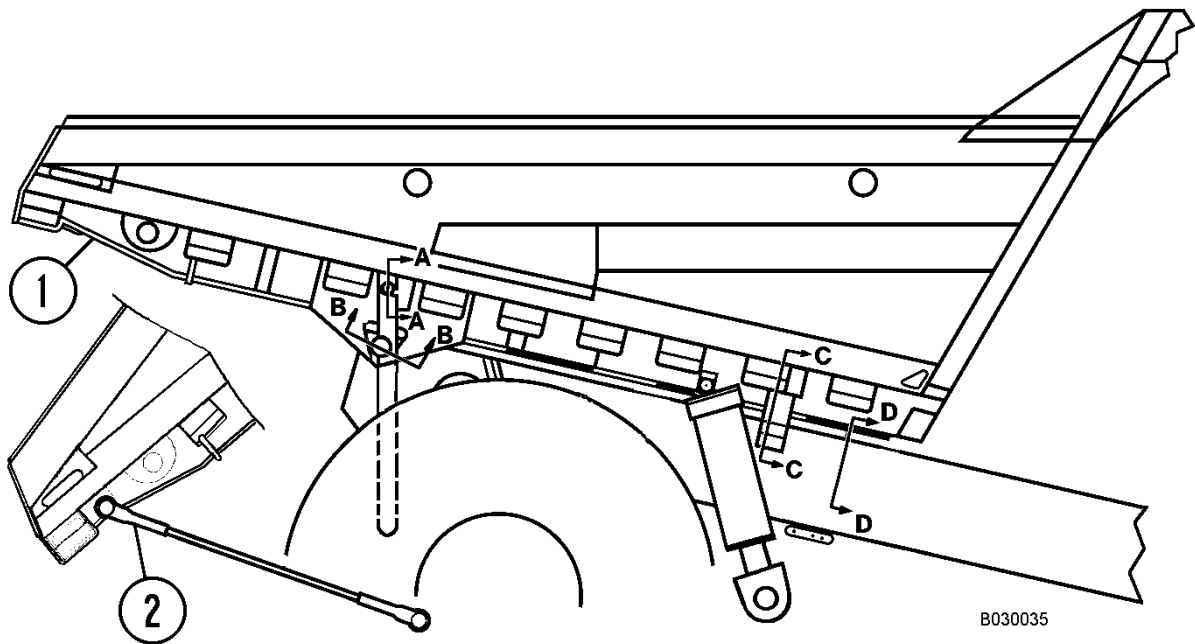

FIGURE 20-1. SECURING THE DUMP BODY
- To hold the dump body in the raised position, raise the body to its maximum height. Refer to Figure 20-1.
2. Remove cable (2) from its stored position on the body and install between dump body (1) and the axle housing ear.